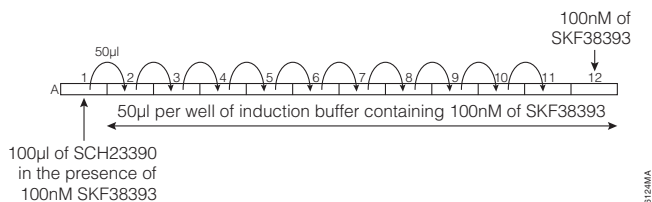

Figure 9. Dilution scheme for the antagonist SCH23390.
5. Prepare a twofold dilution of antagonist SCH23390 by transferring 50μl from well A1 to well A2 with a pipette, pipetting to mix. Transfer 50μl to well A3. Repeat for wells A4 through A11. See Figure 9. Discard the extra 50μl from well A11. Do not add SCH23390 to the no-antagonist control reactions in well A12.